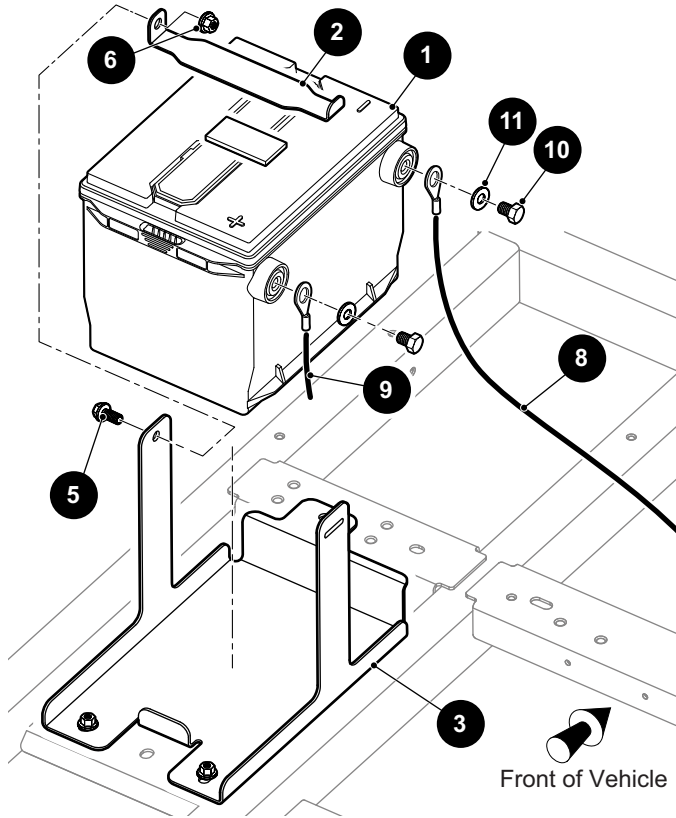

Fig. 1 Battery
2. Use an insulated wrench to remove bolts (10) and washers (11) that secure the battery cables (8 and 9) to the battery (1) (Ref. Fig. 1).
3. Remove the bolt (5) and nut (6) from the battery tray (3). Remove the battery hold-down bracket (2).